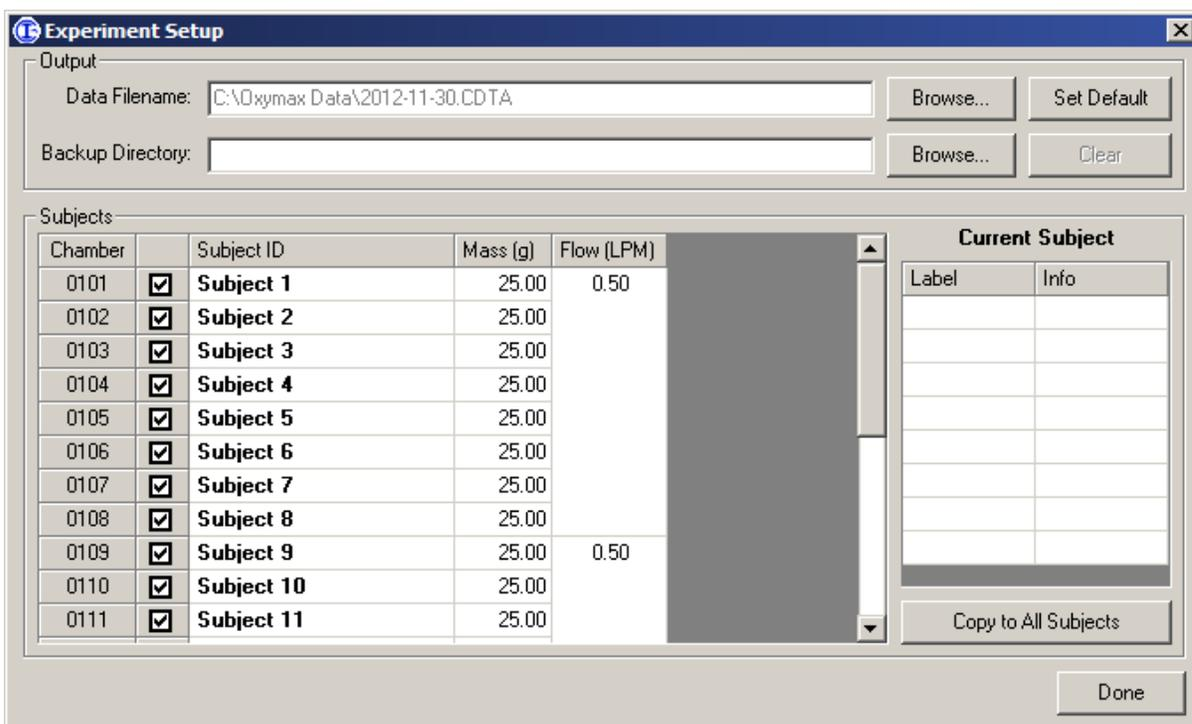

Figure 7 - Experiment Setup Window
The Experiment Setup Window can be reached from the “Experiment >> Setup” menu after a blank data file has been created. An example of an Experiment Setup Window appears in Figure 7.
- **Chamber** – This numerical identifier is comprised of the group to which the chamber belongs as well as its position within that group. A “group” is defined as a collection of chambers that share gas sensors. Systems with multiple sets of gas sensors can take samples from multiple chambers at once, but each chamber is always sampled from only one set of sensors. In the example system presented in Figure 7, the system is comprised of eight chamber and one set of gas sensors (Oxygen and Carbon Dioxide).